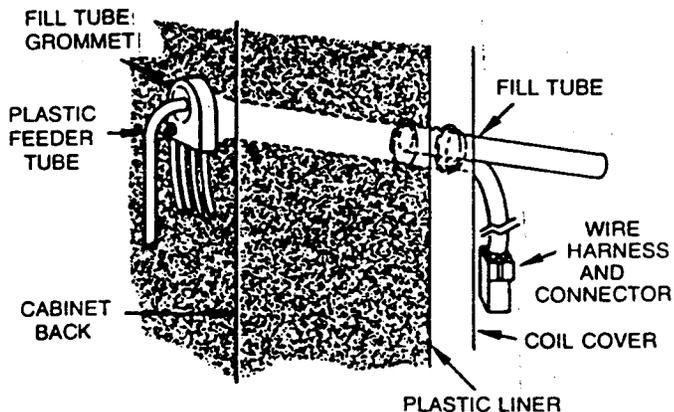

Figure 4 Cross-section view of fill tube and ice maker harness properly installed
1. Wet the end of the plastic fill tube and push it into the exit end of the ice maker wire harness grommet as far as it will go, approximately 1 inch (figure 4 shows these items installed in the cabinet).
5. Push the short end of the ice maker harness and rubber grommet, including the plastic fill tube, through the opening (see figure 4). Then, using a twisting motion, seat the rubber grommet in the cabinet hole, making sure the small hole in the grommet is aligned with the small one in the cabinet back. NOTE: the grommet is intended to fit very tightly to provide a good seal against the cabinet back.